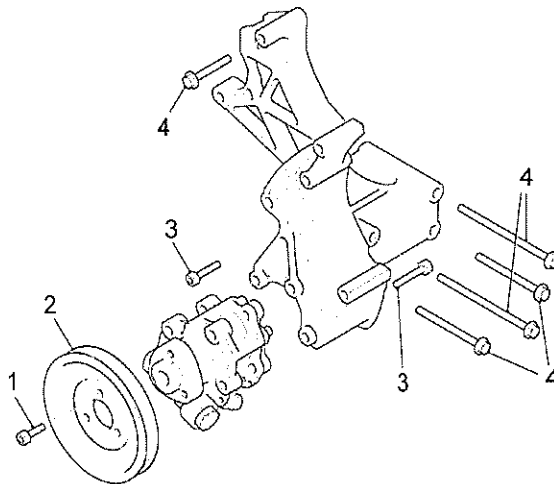

Fig 12 Steering pump (5-cylinder Euro 3 engine variant)
28.2 Loosen fixings of V-belt pulley (see Fig 12 (1)).
- 28.7 Unscrew the M8 fixings of V-belt pulley (see Fig 12 (1)) from steering pump and remove V-belt pulley (2).
- 29.2 Screw in bolts (see Fig 12 (3 and 4)) to secure steering pump to bracket. Tighten to 20 Nm torque (see Table 2, Ser 10).
- 29.3 Mount pulley (see Fig 1 (2)) on steering pump. Tighten screws (see Fig 12 (1)) to 20 Nm torque (see Table 2, Ser 11).